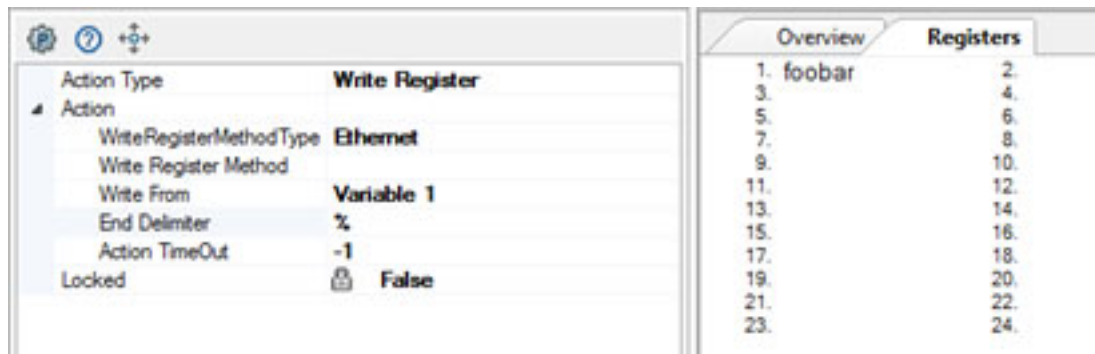
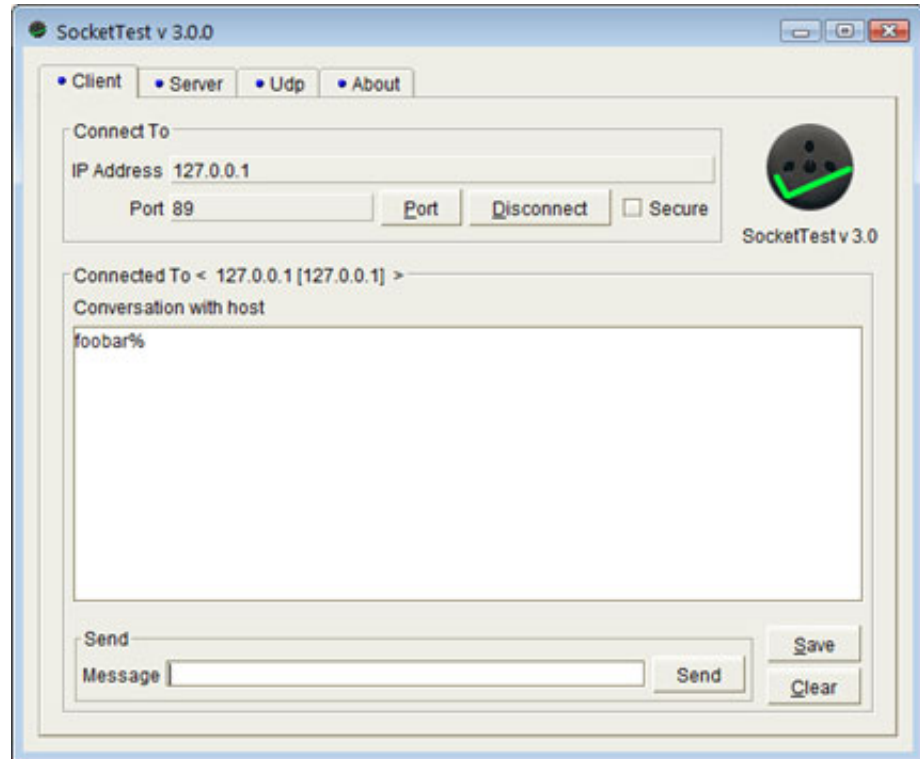

Figure 179: Write Register Ethernet Configuration
Figure 180: Write Register Ethernet Output
1. Writes the value of an IPGScan register to a TCP Client. This Action Control uses the TCP settings and Actions Port from the IPGScan Options. Figure 179 (below) and Figure 180 on page 175 show an example of this Action Control.